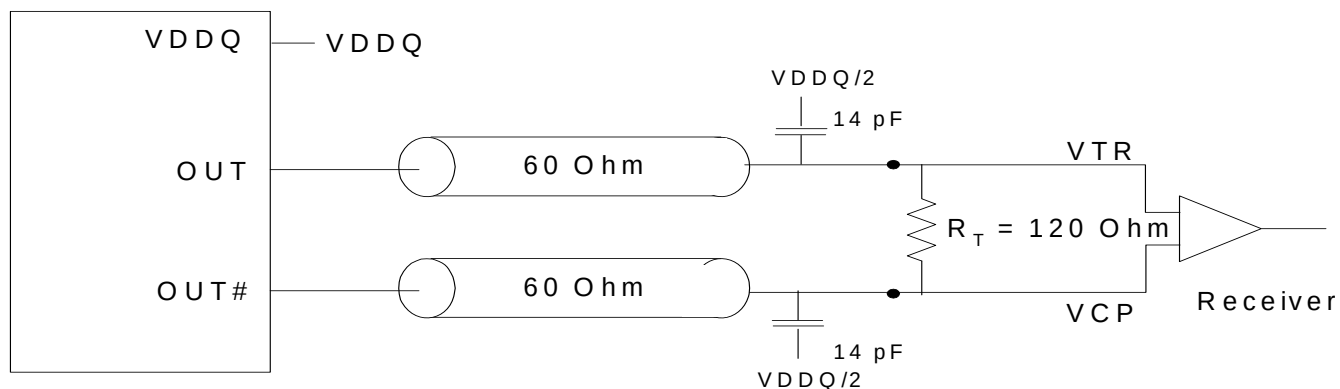

Figure 6. Differential Signal Using Direct Termination Resistor
- Differential input signal voltage specifies the differential voltage $V_{TR} - V_{CPI}$ required for switching, where V_{TR} is the true input level and V_{CPI} is the complementary input level. See Figure 6.
- For load conditions see Figure 6.
- The value of V_{OC} is expected to be $(V_{TR} + V_{CPI})/2$. In case of each clock directly terminated by a 120 Ω resistor. See Figure 6.
- All outputs switching load with 14 pF in 60 Ω environment. See Figure 6.